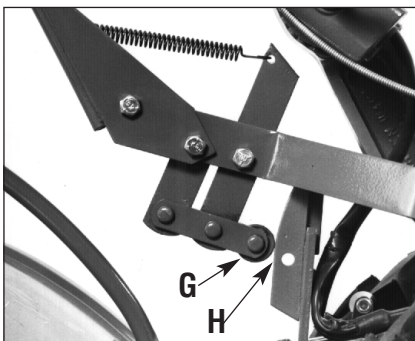

Figure 3-4: REVERSE position; roller (G) rests against upper area of the adjustment block (H).
- REVERSE is engaged when the lever is pushed (with an open palm) all the way up and held in that position (Figure 3-4). Use this setting to move the wheels in reverse. To stop moving in reverse, release the lever; it automatically returns to the NEUTRAL position.